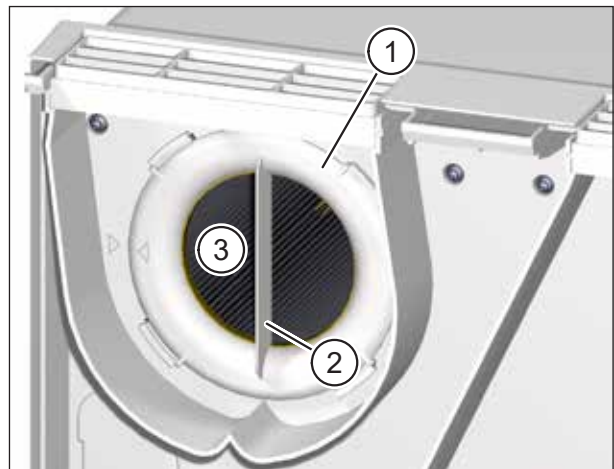

Fig. 16: Removing the extract air filter
- ▶ Turn the filter ring (item 1 in Fig. 16) using the hand grip (item 2 in Fig. 16) anti-clockwise until the filter ring is released from the retainers.
- ▶ Pull the filter ring together with the extract air filter (item 3 in Fig. 16) out of the ventilation unit.
- ▶ Check the position of the filter ring. The hand grip must be vertical and the arrow on the filter ring must line up with the arrow for the locking position (see Fig. 16 on page 32).